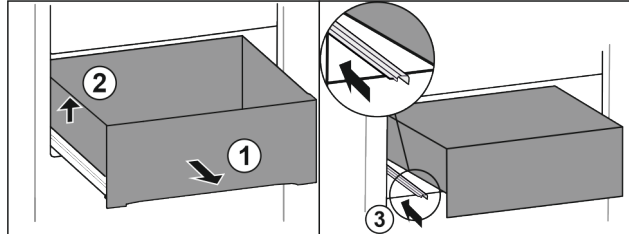

Fig. 82
- ▶ Pull out drawer as far as it will go. Fig. 82 (1)
- ▶ Lift drawer on the left. Fig. 82 (2)
- ▶ Insert left rail. Fig. 82 (3)